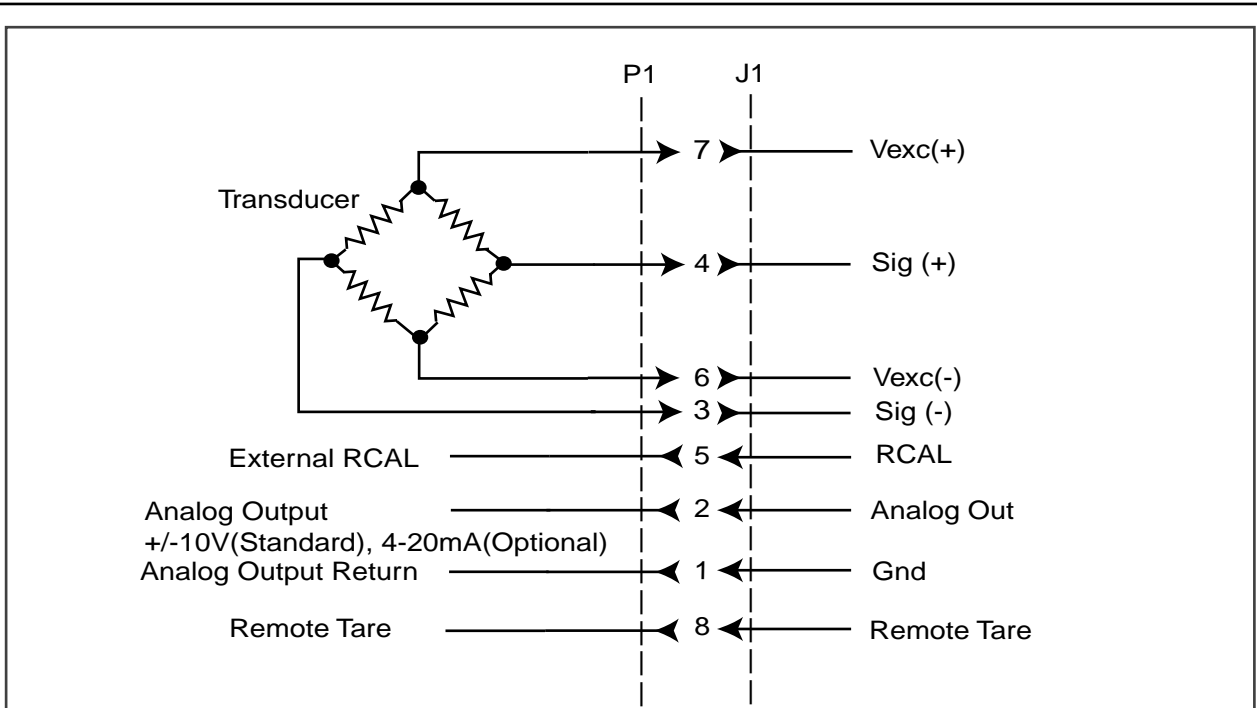

Figure 3. Transducer Wiring
Reference Figures 3 and 4 for TRANSDUCER and RELAY/RS232 wiring information. Power is applied with a 3-prong AC power cord. The instrument is protected by a 250V, 250mA fast acting 5mm fuse. The fuse holder is an integral part of the input power connector. A spare fuse is provided in the fuse holder. Internal solder jumpers are provided to allow 115VAC or 230VAC operation (Reference Figure 6 on page 5).
Reference Figures 3 and 4 for proper input and output signal wiring.
1. The first method uses actual or simulated ZERO and FULL SCALE (FS) inputs. Actual inputs may come from a strain gage transducer loaded with calibrated weights. Simulated inputs may come from a strain gage bridge simulator.
2. The second method utilizes an RCAL resistor to simulate a load on a strain gage bridge. The RCAL resistor is activated when the RCAL (S5) switch is depressed. Reference Figure 3 for location of S5.
1. Connect the strain gage transducer to the instrument using Figure 3 as a reference. Do not apply any load to the transducer.